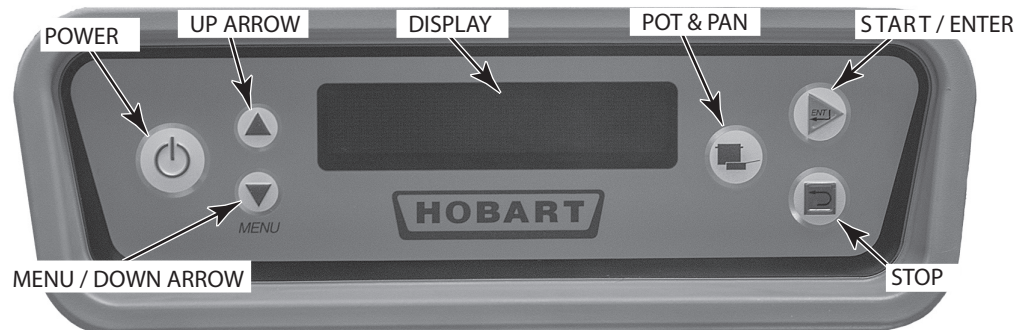

Fig. 30
The controls are mounted on top of the dishwasher. The Keypad and Display are mounted in front of the control box (Fig. 30).
Close all doors. To begin filling after the machine is ready, press the POWER key (Fig. 30).
5. Press the POWER key on the keypad (Fig. 30). Dishwasher will fill automatically (refer to Filling the Dishwasher, this page). After the tank has filled, the burner will ignite if heat is required. The ignition system includes a 15-second pre-purge period before ignition occurs.
6. If the dishwasher will not operate, press the POWER key on the keypad (Fig. 30) and turn the manual gas valve Off. Call your local Hobart service office or gas supplier.
After the machine has filled, start the pumps by pushing the START/ENTER key on the keypad (Fig. 30) or by inserting a rack into the machine.
The conveyor dwell feature, standard, allows the operator to stop the conveyor in order to wash heavily soiled dishes for a longer time. Press the DOWNARROW located on the keypad (Fig. 30) until the '<' symbol is shown to the left of 'CONVEYOR DWELL'. When the dish rack reaches the wash zone, press the ENTER key on the keypad (Fig. 30) to momentarily stop the conveyor. To restart the conveyor, press the START/ENTER key on the keypad (Fig. 30). **NOTE:** On all CLeN models (except the VL models), the unit will continue to run in dwell mode until the ENTER or STOP key is pressed. On CLeN-VL models, the unit will stop after 30 minutes of dwell time.
If the rack jams or if the load becomes excessive, an overload mechanism shuts off the conveyor drive motor and 'Clear Conveyor Jam' displays. Open the doors and remove the jam. After the jam is cleared, close the doors and push the START/ENTER key on the keypad (Fig. 30) to restart the dishwasher.
All tank temperatures are shown on the Display (Fig. 30) when the machine is in operation. The Final Rinse temperature displays --- until a rack is in the rinse zone; then, the Final Rinse water temperature displays. After the ware exits the rinse zone, the Final Rinse temperature display returns to --- .
The pot and pan feature, standard on all CLeN models, allows the operator to wash heavily soiled pots and pans by indexing the racks thru two pre-set wash zones for a specified amount of time. The wash times can be adjusted in the Parameters Menu, refer to page 36. Push the POT and PAN key located on the keypad (Fig. 30) to enter the pot and pan mode. Insert rack into machine. Each rack will index twice thru wash zone by the pre-set time. The machine will return to normal operation by pressing the POT and PAN key or the STOP key, or if the Auto Timer times out.
To conserve energy, if no rack enters the machine for a preset amount of time, the Auto-Timer counts down and the pumps and conveyor shut off. Tanks continue to heat, and tank temperatures display. To resume operation, insert a rack or press the START/ENTER key on the keypad (Fig. 30).
After a period of machine inactivity, the control initiates Energy Saver Mode (ESM): All warewasher components are turned off, and the display on the control dims, displaying 'Energy Saver Active/Press STOP to Exit'. To exit Energy Saver Mode, press the STOP key (Fig. 30). You may press the POWER key to completely turn the machine off. The period of machine inactivity prior to ESM can be set from 1 to 6 hours in the Parameters Menu; 2 hours is the factory setting. Refer to page 36.
1. Press the POWER key on the keypad to turn the machine Off (Fig. 30).